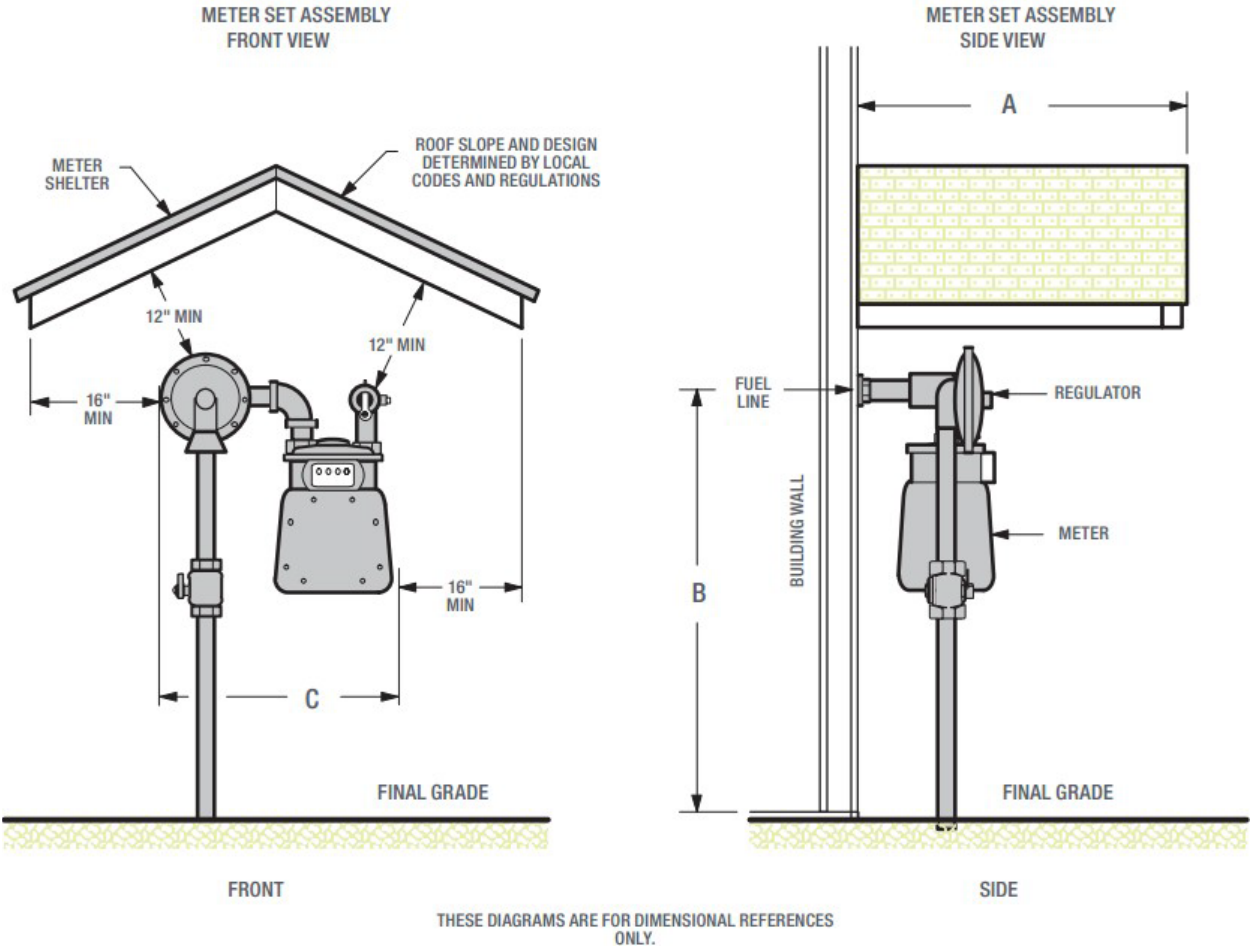

Figure 2 – Meter Shelter Diagram
- ✓ Protected from falling snow, ice or debris that may damage the meter – preferable on a gable end or under a Meter Shelter (See Figure 2 – Meter Shelter Requirements)